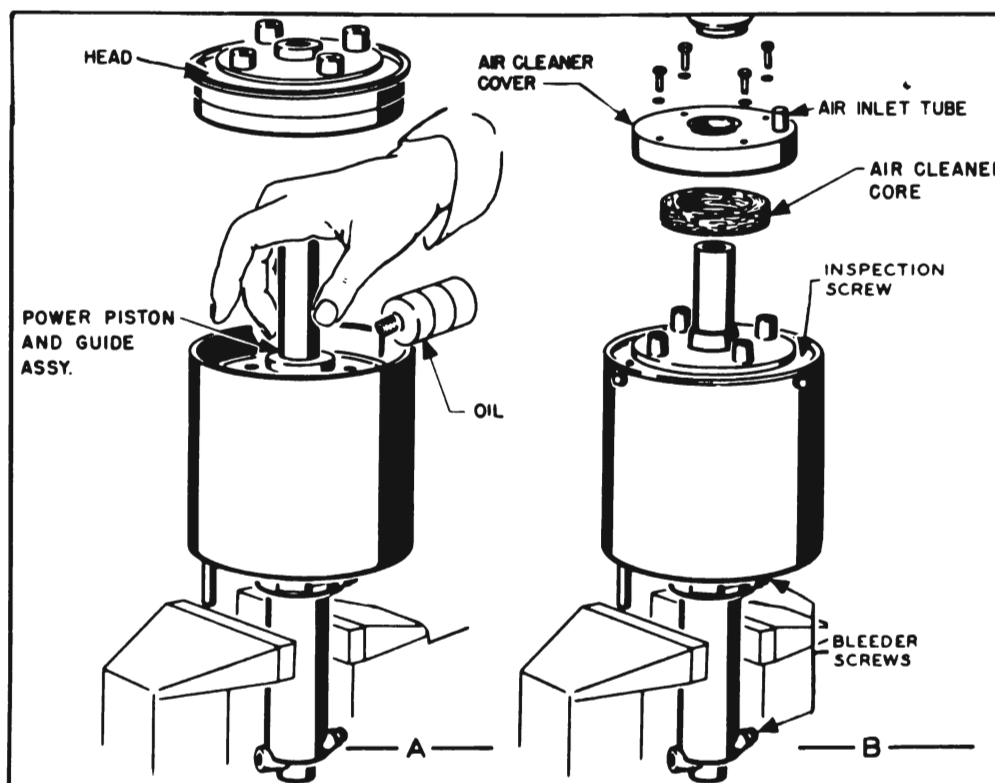

Figure 8-16—Installation of Piston and Head
3. Set power piston and guide assembly in place with retaining shoulder engaged in return spring, press the assembly down into housing about two inches, then pour the remaining special brake cylinder oil (should be 1-2 oz.) into housing and upon piston guide, but *avoid pouring oil into air holes*. See figure 8-16, view A.
4. While holding piston guide down, install cylinder head over the guide sleeve and into the housing. Locate head with inspection hole screw on *same side* as the bleeder screws on hydraulic cylinder and with screw holes aligned with holes in housing. See figure 8-16, view B.
7. Blow out or replace air cleaner core, install core and cover, placing air inlet tube on *same side* as hydraulic cylinder bleeder screws, then install cover screws with lockwashers. See figure 8-16, view B.